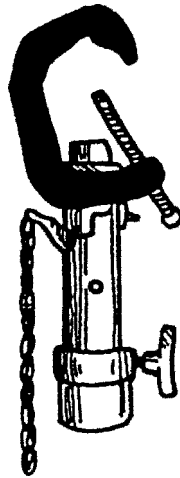

Figure 2.50 Junior pipe clamp.
1. The junior pipe clamp (Figure 2.50) terminates in a 1-1/8 in. receptacle.